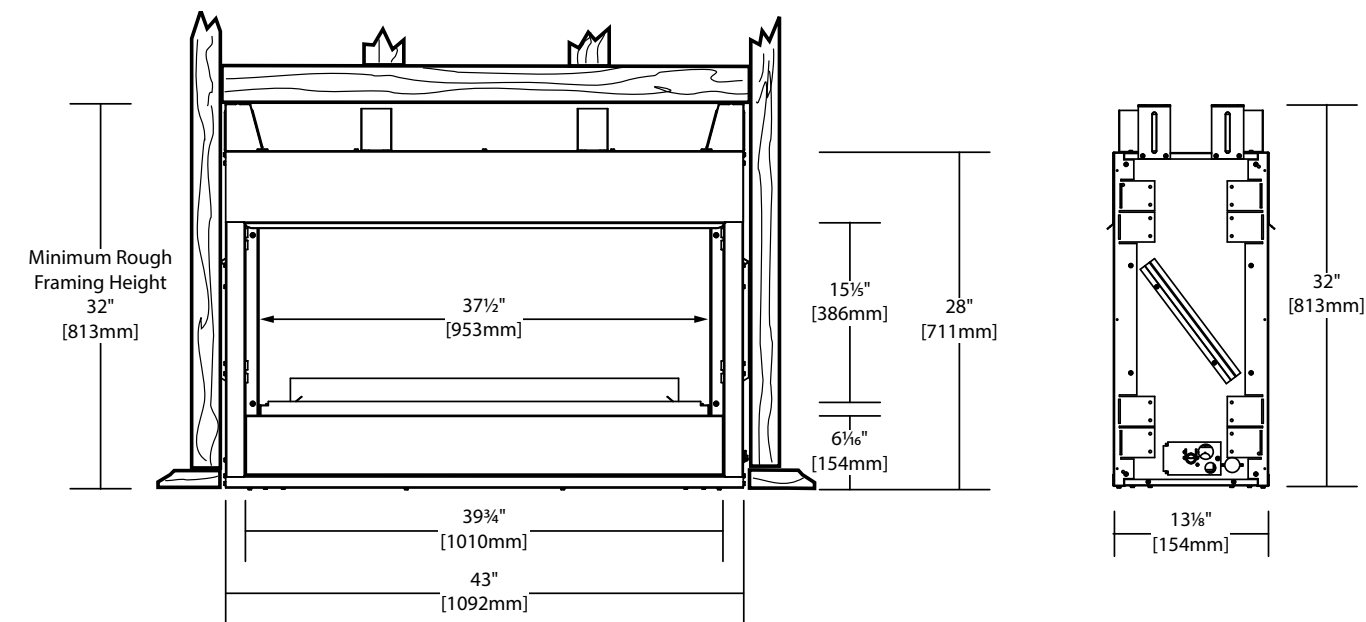
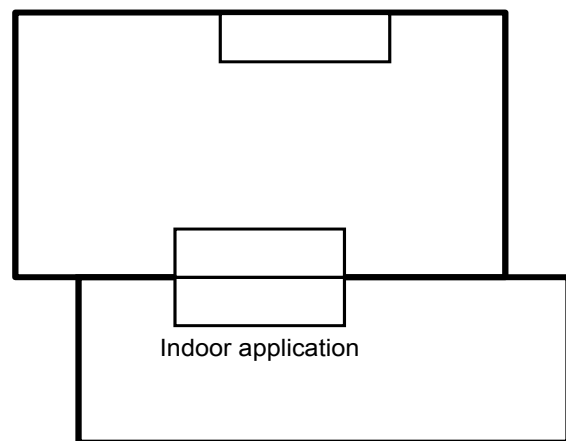
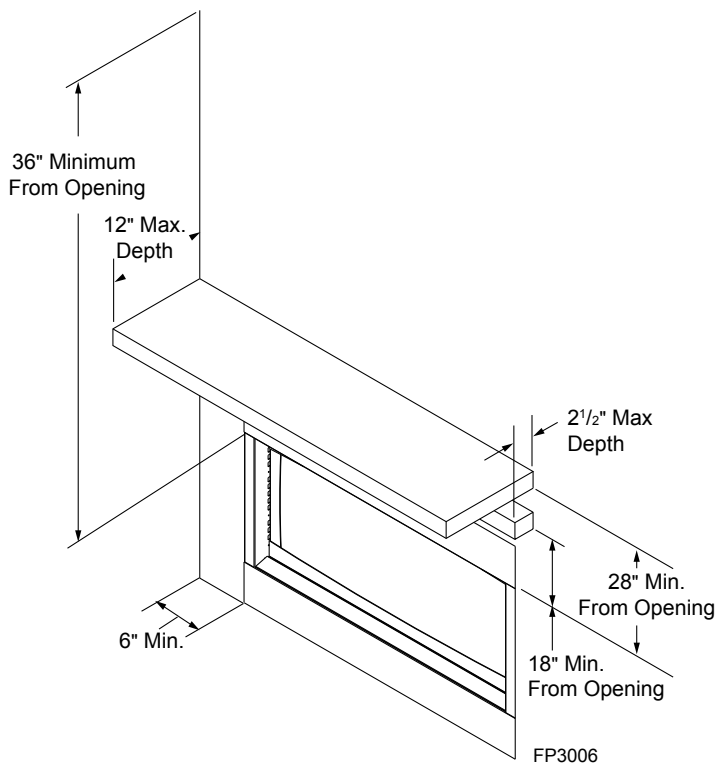

Figure 2. Fireplace dimensions
Figure 5. Possible Fireplace Locations
Figure 6. Sidewall and Ceiling Clearances
1. Position fireplace in desired location. Refer to the Fireplace and Framing Dimensions (page 6, Figures 2 and 3,) Fireplace Location (page 8, Figure 5) and Clearances and Height Requirements (page 9, Figures 6 and 7.)
- Minimize modifications to existing construction. Refer to Figure 5 below for location suggestions.
Ensure that minimum clearances shown in Figures 6 and 7 are maintained. Left and right clearances are determined when facing the front of the firebox.
**Sidewall Clearances** — The clearance from the inside of the appliance to any combustible adjacent wall should not be less than 6". Figure 6
**Ceiling Clearance** — The ceiling or any other combustible material must be at least 36" from the firebox opening. Figure 6
The dimensions shown in Figures 5 and 6 are minimum clearances to maintain when installing this heater. Left and right clearances are determined when facing the front of the heater.
**Mantel clearances** — Must meet the clearance requirements detailed in Figures 6 and 7.